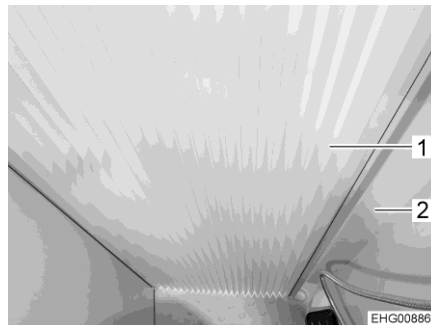

Fig. 170 Pleat, closed
- Close the pleat (Fig. 170,1). To do this, pull the pleat towards the large swivel wall (Fig. 170,2) until the magnetic catch holds the pleat in position.